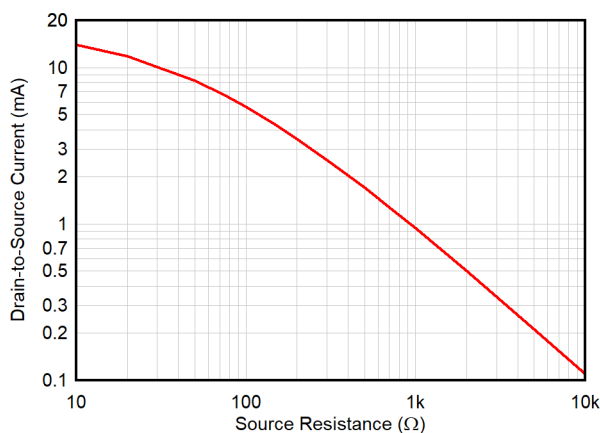

图 9-4. Drain-to-Source Current vs  $R_S$ ,  $V_{DS} = 5\text{ V}$
performance. The JFE2140, however, delivers significantly lower noise performance than most operational amplifiers at the same current consumption. The bias current ( $I_{DS}$ ) is set by the value of the source resistor,  $R_S$ , and the threshold voltage,  $V_T$ , of the JFE2140. For JFETs, this threshold voltage is equivalent to the gate-to-source cutoff voltage,  $V_{GSC}$ . A graph showing nominal  $I_{DS}$  vs  $R_S$  is shown in 图 9-4.
$R_{S2}$	Bias-current setting resistor. This resistor, along with $R_{S1}$ , determine the bias current when using resistive biasing (see 图 9-4). Be aware that both $R_{S1}$ and $R_{S2}$ resistance directly impact noise performance.
- The bias current is set by selecting the desired bias current and noise tradeoff (see 图 6-16). To set the bias current point, adjust the source resistance according to 图 9-4.